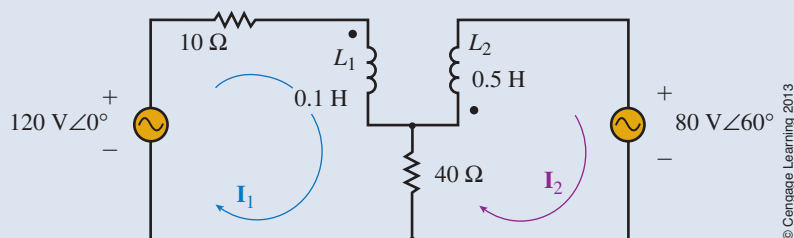

FIGURE 23-62 $M = 0.12 \text{ H}, \omega = 100 \text{ rad/s}$.
1. Refer to the circuit of Figure 23-62.